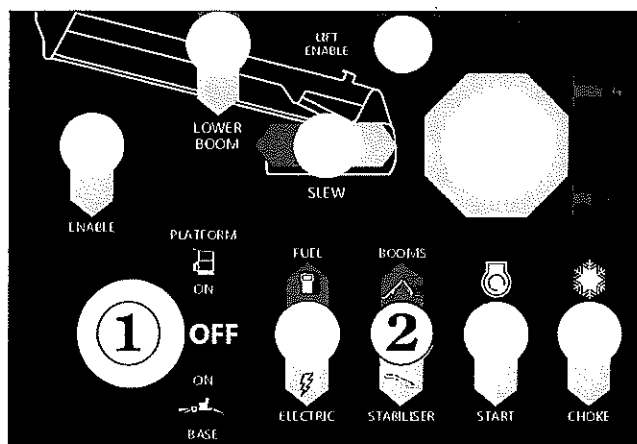

Figure 8.6
1. Insert the key ① into the **Platform / Ground Selector Switch** at the ground control box and select PLATFORM (see Figure 8.6).
2. Set the **Booms / Stabiliser Selector** Switch ② (see Figure 8.6) at the ground control box to BOOMS.